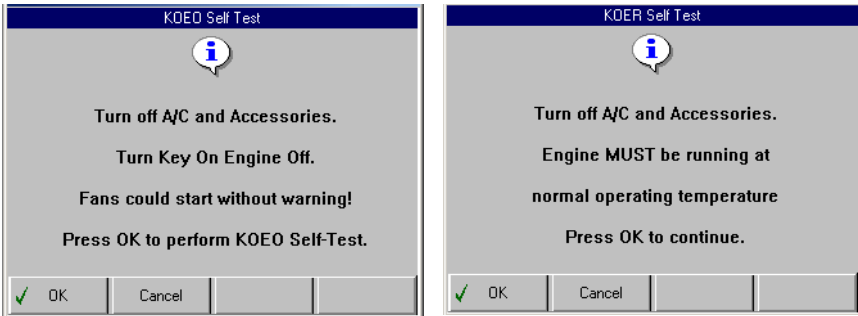

Figure 3.39: KOEO and KOER Self Test Instruction Screens
- 3 Select **KOEO Self Test** or **KOER Self Test** and press the **ENTER** key. This displays a test instruction screen (Figure 3.39).